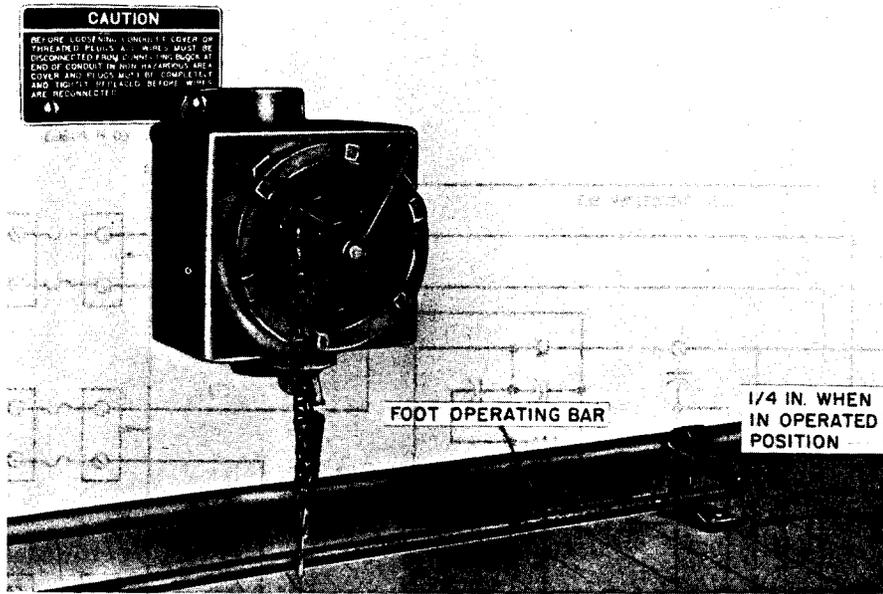

Fig. 5—KS-14547 Foot Switch, External View
2.05 The foot switch operating rod should be about 1/4-inch from the floor when in the operated position (Fig. 5).